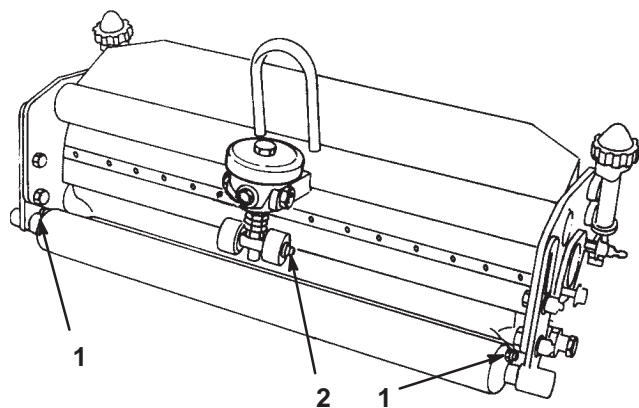

Figure 11
4. Apply grease to the pivot points (Fig. 11).